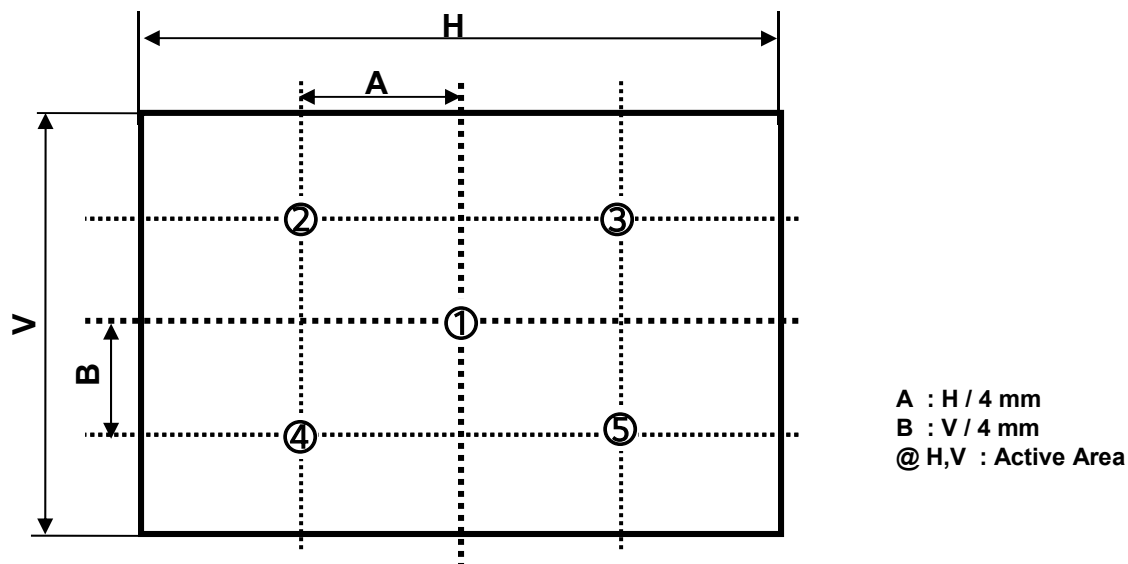

FIG. 2-1 5 Points for Contrast Ratio Measure
n = the Position number(1, 2, 3, 4, 5). For more information, see FIG 2-1.
2. Optical Characteristics is determined after the unit has been 'ON' and 1 Hour after lighting the backlight in a dark environment at $25 \pm 2^\circ\text{C}$. Surface luminance is the luminance value at center 1-point across the LCD surface 50cm from the surface with all pixels displaying white. For more information see the FIG. 2-1.